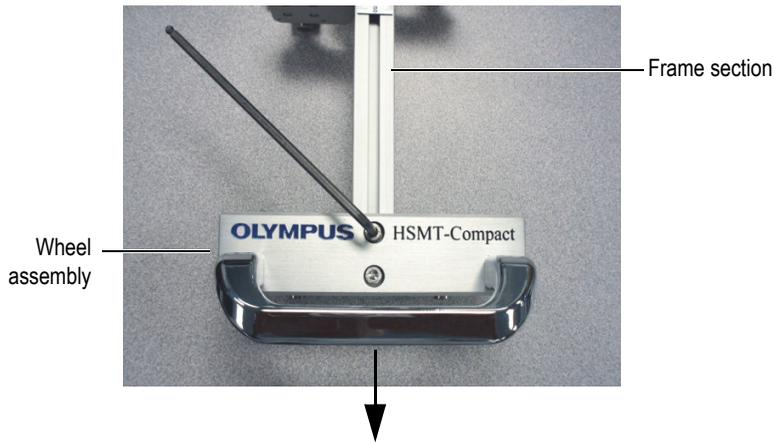

Figure 2-1 Sliding the wheel assembly off
- a) Using a hexagonal key, remove the two screws that attach the frame section to the wheel assembly (see Figure 2-1 on page 20).